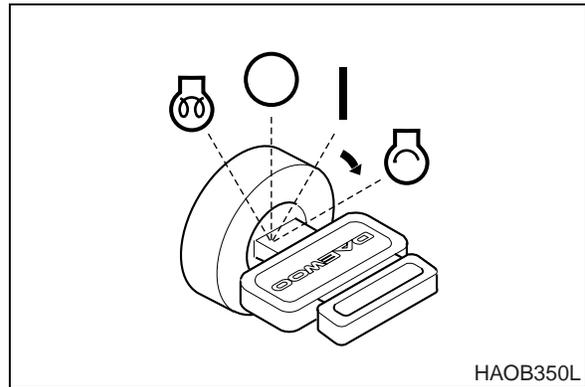

Figure 10
5. After the preheat completion turns "ON," immediately turn starter switch to "I" (START) position (Figure 10). Engine should start in approximately 5 seconds.